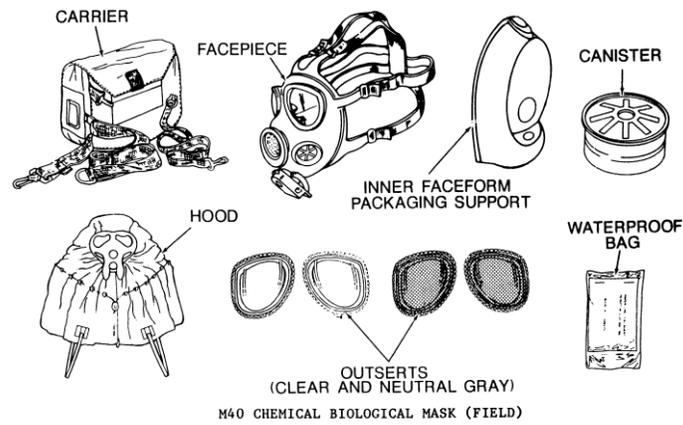

Figure 1
- (1) The M-40 FPM is used to protect the individual's face, eyes, and lungs against field concentration of chemical and biological (CB) agents, toxins and radioactive fallout particles.
- (2) The M40 FPM will not protect the wearer against industrial gases such as ammonia, carbon monoxide. It is not effective in confined spaces, where the oxygen content of the air is low.
- (3) The M40 FPM allows the wearer the capability of drinking water while worn.
- (4) The M40 FPM comes in three (3) sizes small, medium, and large. The size mark is located on the top left portion of the mask.
b. **Components of the M-40 FPM** - When you receive a FPM you should inspect the following components for serviceability (See fig. 1):
- (1) **Face-piece Assembly** - Visually inspect outside and inside for the following:
- (2) **Head Harness** - Visually inspect for the following:
- (3) **Eye-lenses, Eye-rings and Out-serfs** - Remove out-serfs from face-piece and inspect for the following: